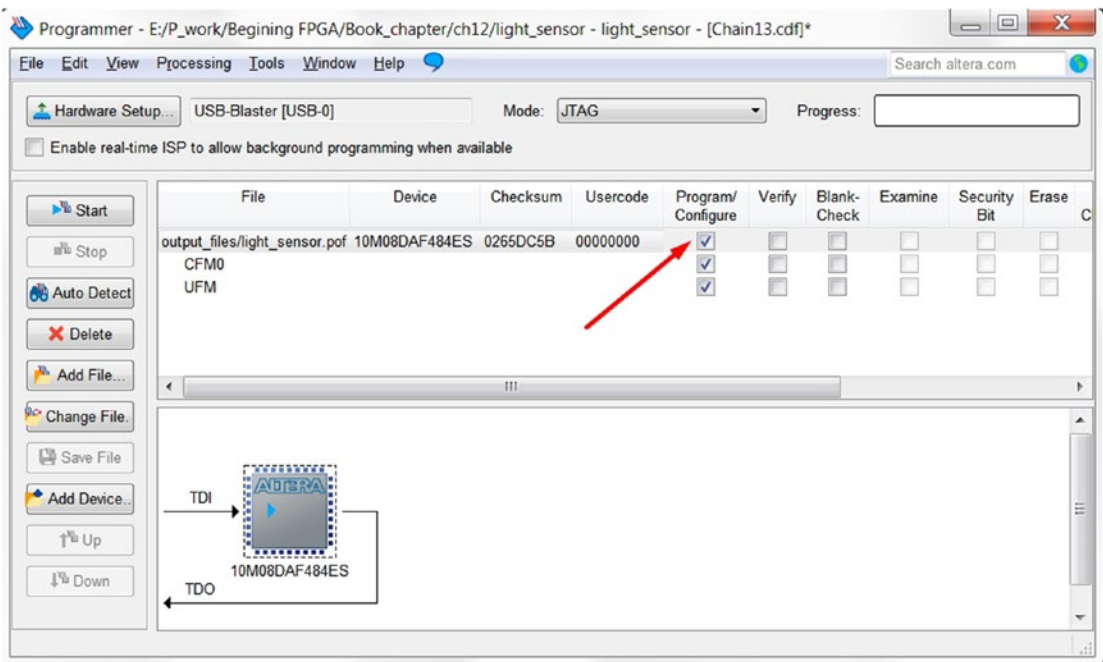

Figure 12-48. Start to program the design with the .pof file
Step 4: If you want to make the design able to reload after power is lost on the board, you need to select `light_sensor.pof` file. This file will ask the programmer to program the file to the flash memory which is nonvolatile. Figure 12-48 shows the difference when you select a `.pof` file. I suggest you use the `.sof` file to try out a couple of times and tune the high boundary and low boundary values. You can use the `.pof` file to program the FPGA when it is close to the final design. Remember to check the **Program/configure** box before you click the **Start** button.